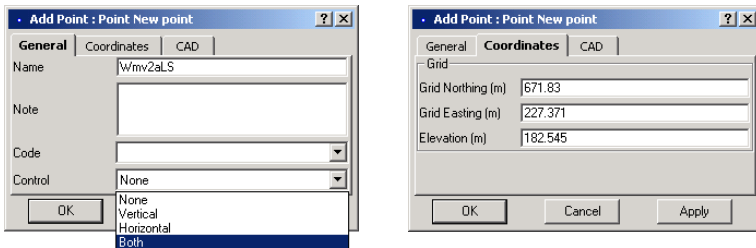

Figure B-33. Add Point Dialog Box - General and Coordinates Tabs
2. Enter a point's *Name* (Wmv2aLS) and *Coordinates* in the Local System (Figure B-33). Click **OK**.